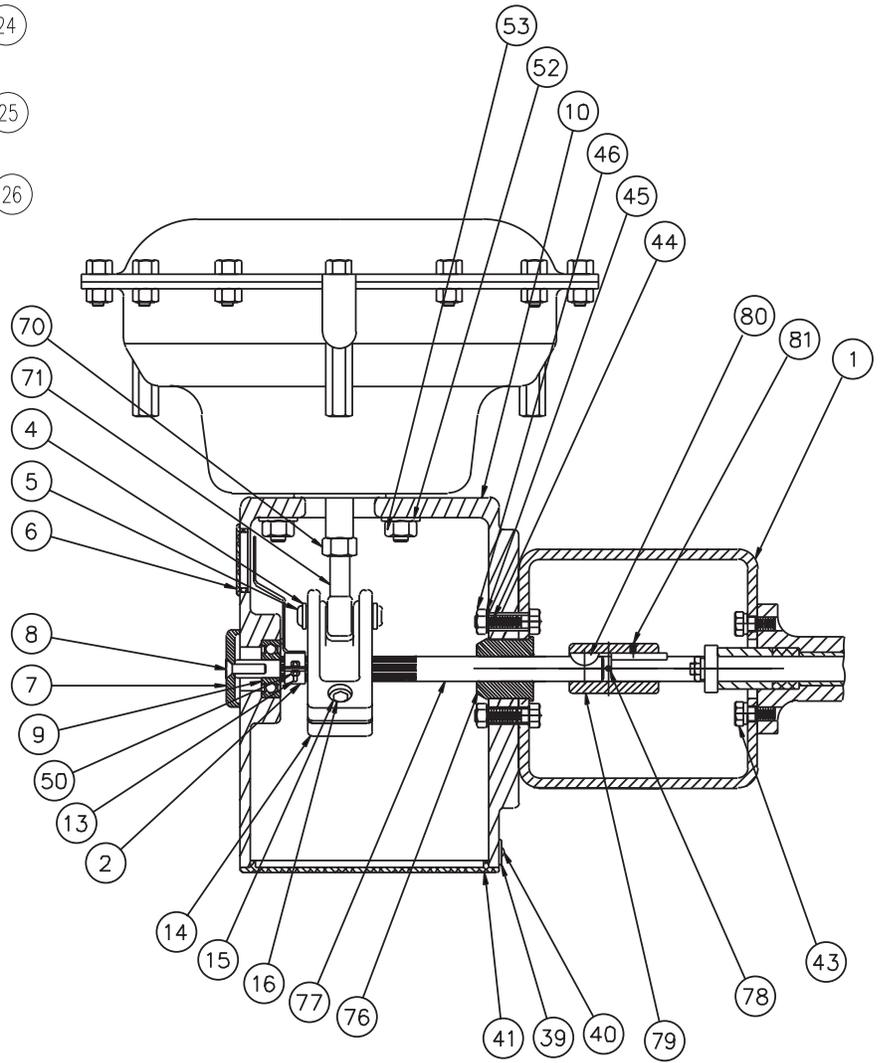

Figure 15
- F. Install end cap (33).
- G. Replace bottom cover (41), side covers (38) and boss cover (42).
In some instances it may be required to shorten or lengthen the rod end bearing (71) to obtain the shutoff desired. The flat face of the disc must be parallel to the face of the retaining ring in the closed position. To adjust the rod end bearing length, refer to Figure 15. Remove one retainer (4) and slide out pivot pin (5) from lever (14). Pull or push rod end bearing out of retainer. Loosen hex nut (70). Rotate rod end to achieve desired length. Tighten hex nut. Align hole in lever (14) with hole in rod end bearing (71). Insert pivot pin (5) through lever and rod end bearing. Install retainer (4). Stroke valve and repeat above steps until desired shutoff is achieved.